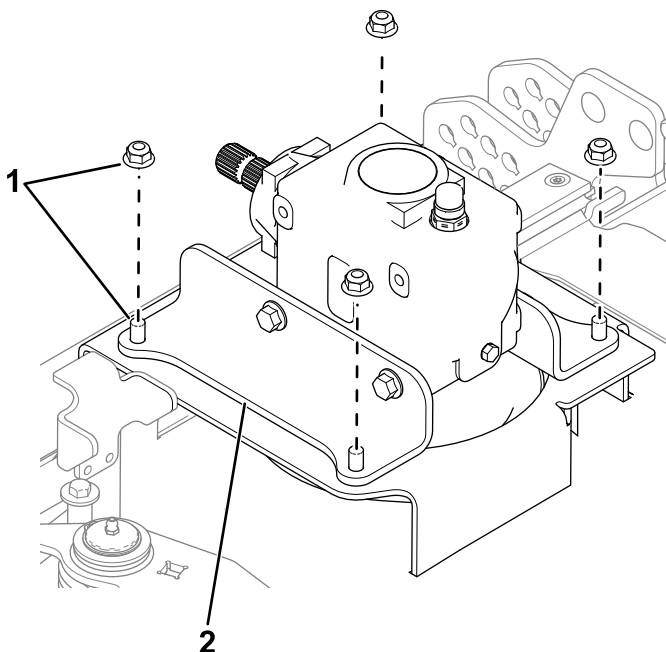

Figure 2
1. Remove the 4 sets of hardware that secures the gearbox bracket to the cutting unit (Figure 2).